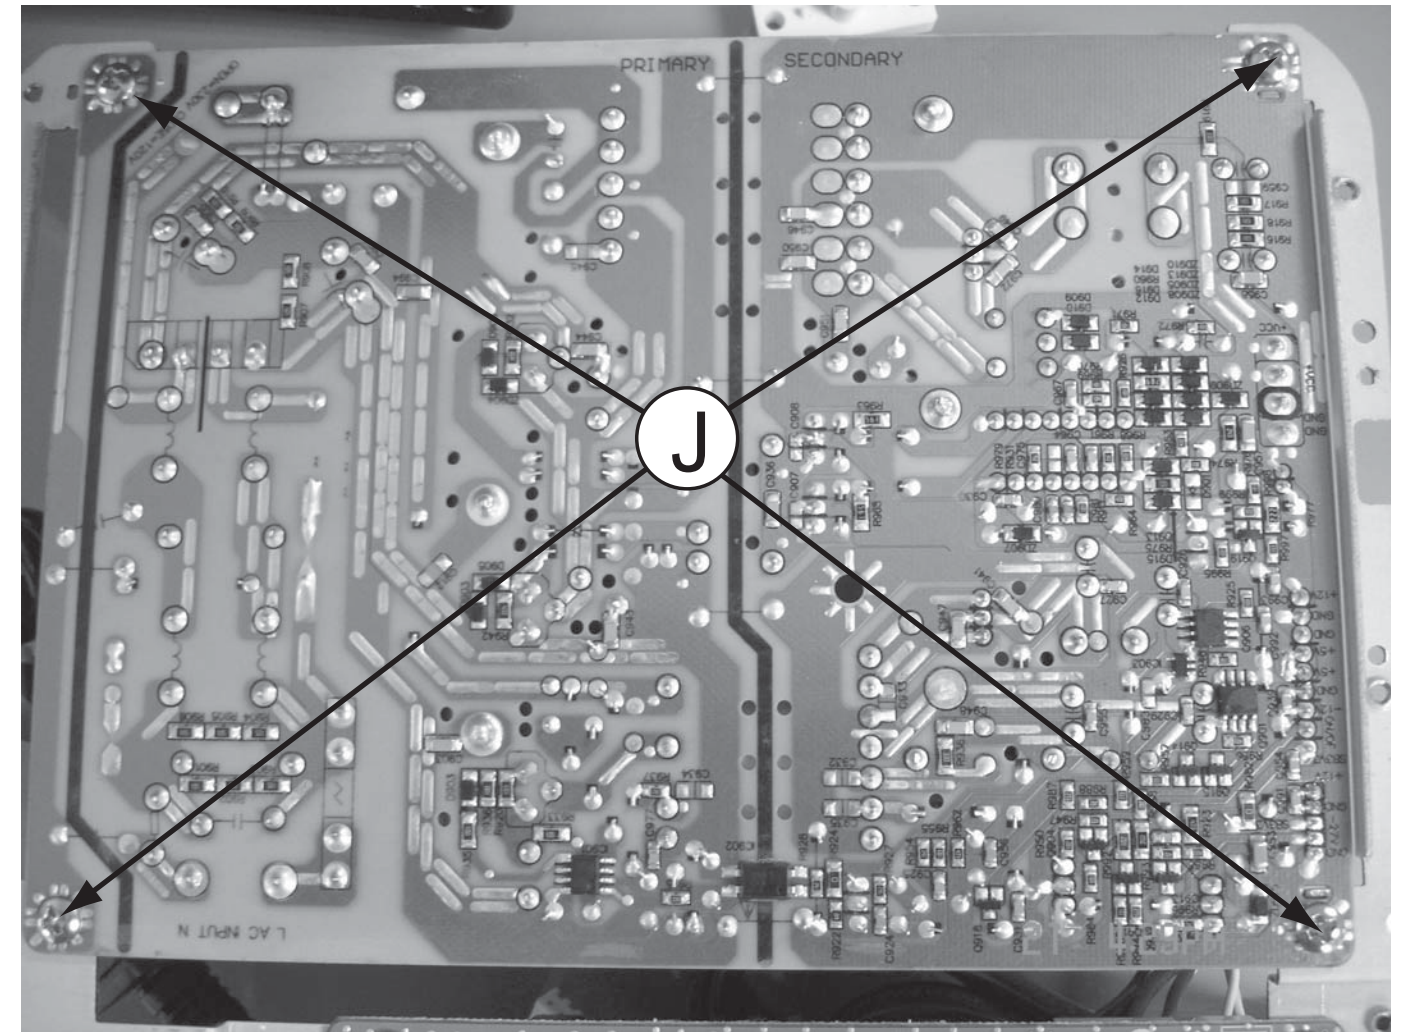

Figure 11
- 2) Loosen 4 screws "J" on the power PCB bottom to remove power PCB as shown in figure 11.